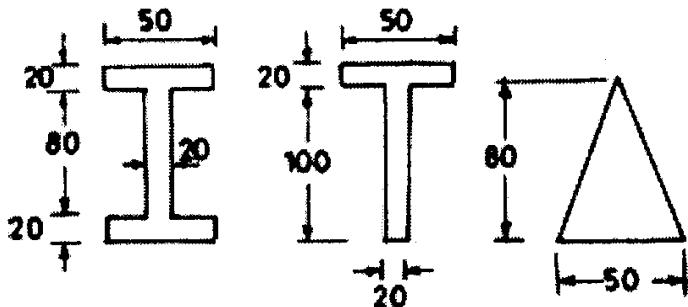

Fig. 1
| 1. | Find the maximum tensile and compressive stresses at a section of a cantilever at a distance of 3 m from the left end (Fig. 1).  |
(Fig. 1)
1.	The three beam sections shown in Fig. 1 , are subjected to a shear force of 80 KN. Draw the shear stress diagram along the depth. Also find the ratio of maximum to mean shear stress.